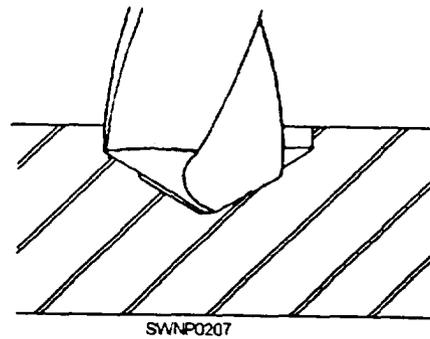

Figure 12-21.—Drill point off center.
3. THE PROPER LOCATION OF THE DEAD CENTER (fig. 12-21). Equal angles but lips of different lengths results in oversize holes and the resulting "wobble" places tremendous pressures on the drill press spindle and bearings.